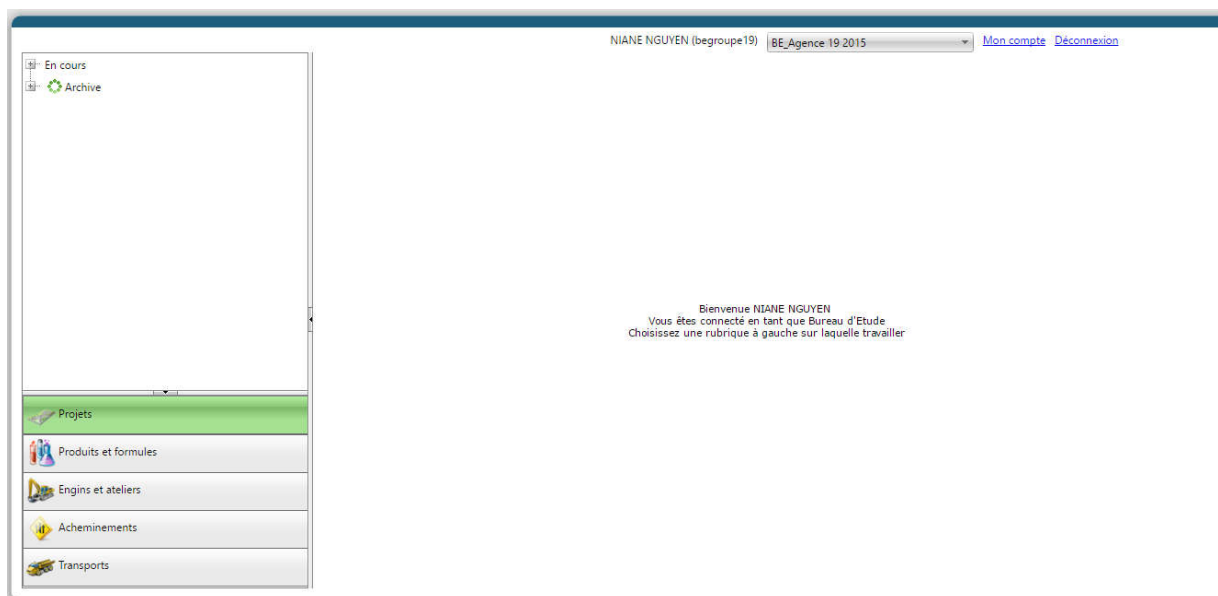

Figure 76 – BE profile home page
Once received the accession email, the Design Office (BE) profile can choose its password and connect by entering the login that ACEU has assigned to it. He is therefore the researcher in charge of studies within an Agency belonging to the EU. When you arrive on the home page, you will be presented with 4 tabs on the left side of the screen (Figure 76).